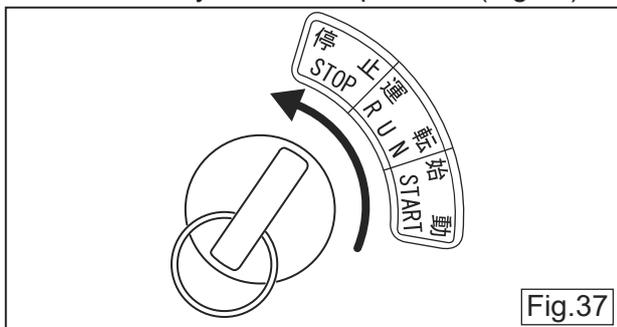

Fig.37
- 3 In case of MVH-508GHS: Turn the key to "STOP" position. (Fig.37)